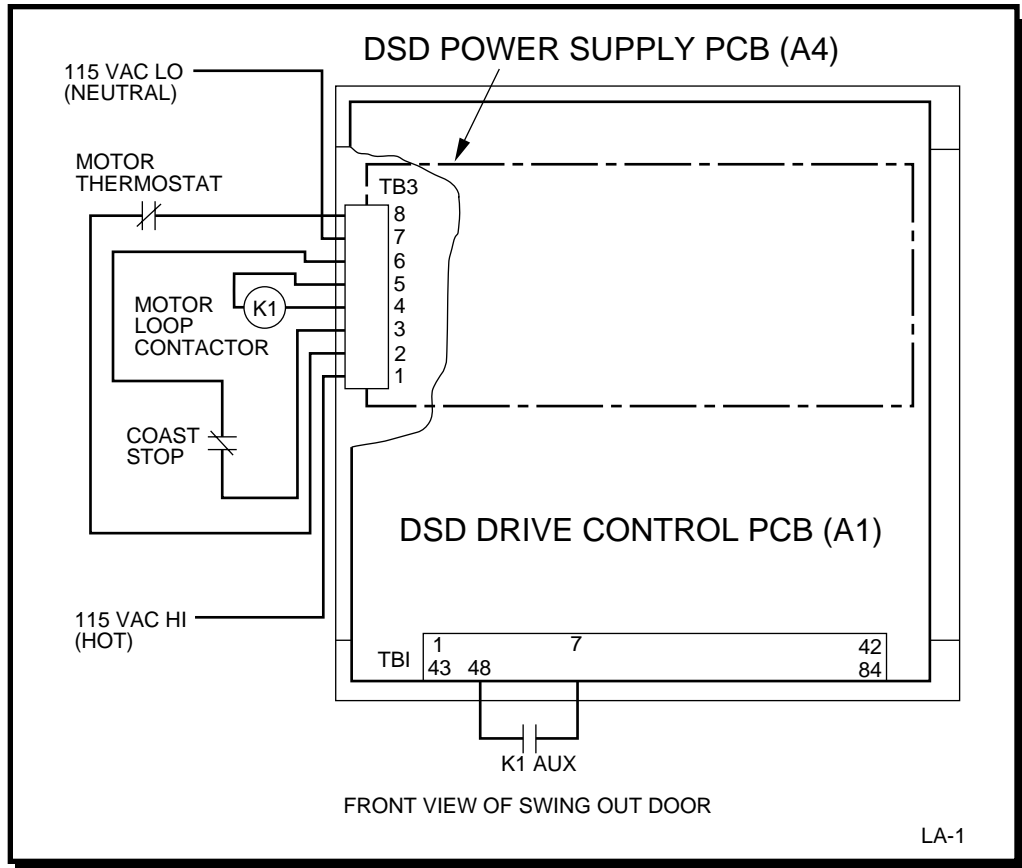

Figure 6. **Connections to TB3 and TB1 DSD Power Cube – Ratings up to 206 Amps**
- ❑ Connect 115 VAC control power to the DSD Power Supply PCB(A4), TB3-1 (Hot) and (A4)TB3-7 (Neutral). This source must be rated at 250 VA or greater. (Refer to Figure 6.)
- ❑ Connect the armature (motor loop) contactor coil to DSD Power Supply PCB, (A4)TB3-4 and (A4)TB3-5. (Refer to Figure 6.)
- ❑ An auxiliary 10ma, 24VDC, low power, normally open (N.O.) contact from the armature (motor loop) contactor must be connected to DSD Drive Control PCB, (A1)TB1-48 and (A1)TB1-7, for the drive to operate. (Refer to Figure 6.)
- ❑ The Coast Stop push button (maintained, 10ma, 24VDC, low power), **MUST BE CONNECTED** to the DSD Power Supply PCB, (A4)TB3-3 and (A4)TB3-6. (Refer to Figure 6.)